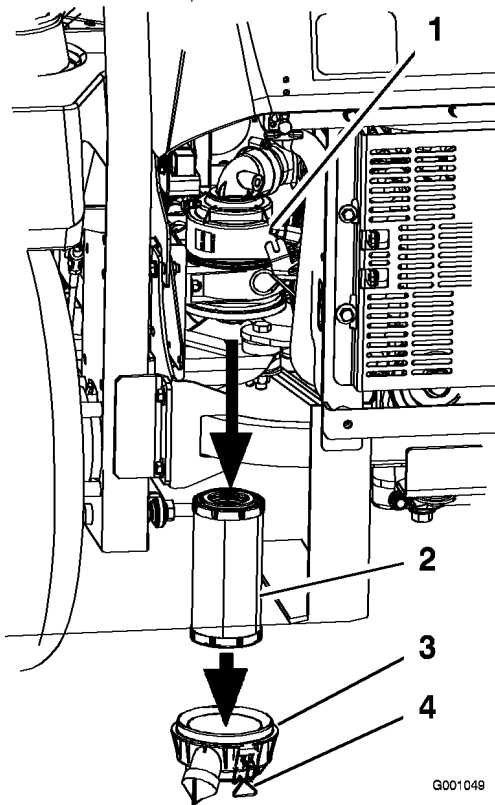

Figure 33
3. Release the latches on the air cleaner and pull the air cleaner cover off of the air cleaner body (Figure 33).
5. Gently slide the filter out of the air cleaner body (Figure 33). Avoid knocking the filter into the side of the body.